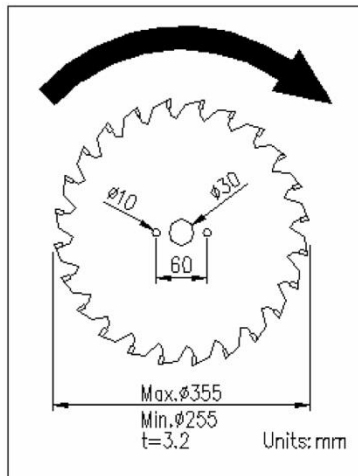

Fig.1
- Fig. 1: the main saw's size and running direction.